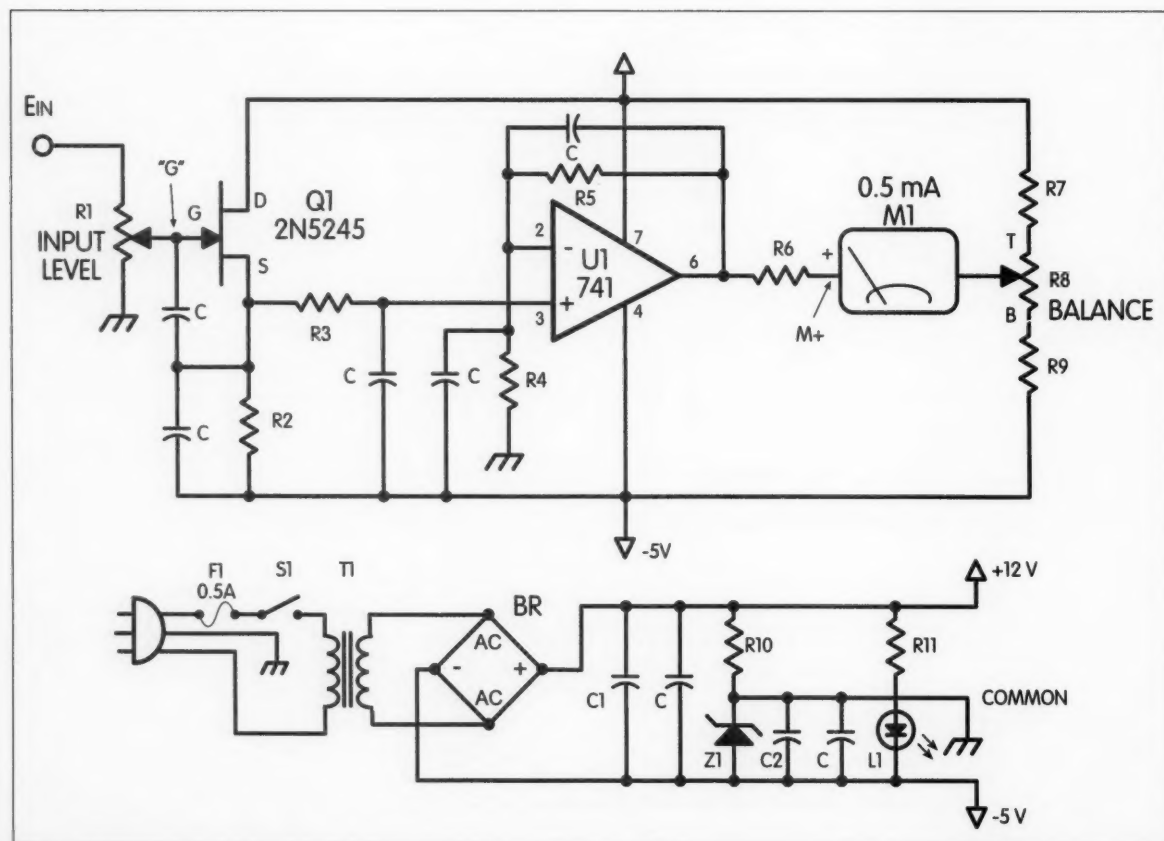

Fig. 2. Schematic diagram of the Analog Volt/Test Meter.
An LM741 op amp provides the foundation of the Analog Volt/Test Meter, as shown in Fig. 2. The input impedance of the LM741 is relatively low, requiring an FET input stage to increase the impedance value. However, the transfer curves of a JFET are nonlinear, which creates a nonlinear calibration response when a linear response is needed. To correct the situation and create a linear response, it is necessary to raise the op-amp gain sufficiently to allow operation over a very narrow portion of the FET curves. The resulting circuit response appears to be at least as linear as the meter scale markings. Any remaining nonlinearity in the FET response is transparent to the user.
• Many bypass capacitors have been used throughout the circuit. These are marked simply as "C" in Fig. 2.